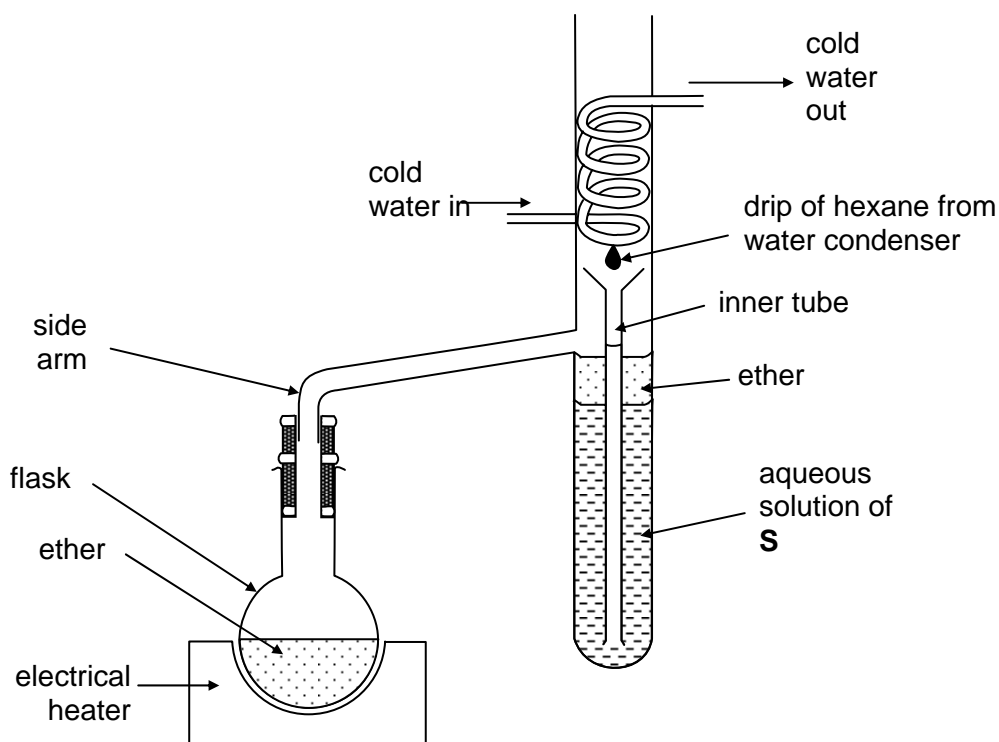

Figure 2.28 – continuous hexane extraction
As can be seen, the amount extracted steadily increases as we split the amount of extracting solvent into smaller and smaller portions. However, it is impossible to extract **all** of a solute, no matter how many portions of solvent we use, since it is never possible to move any equilibrium **completely** to one side or the other. But, if the solvent is a volatile one, and if the solute is involatile and stable to heat, it is possible to 'automate' the process by using a continuous extraction apparatus as shown in Figure 2.28.
**SAQ 8.** Explain in a few sentences how the continuous extraction apparatus shown in Figure 2.28 works.